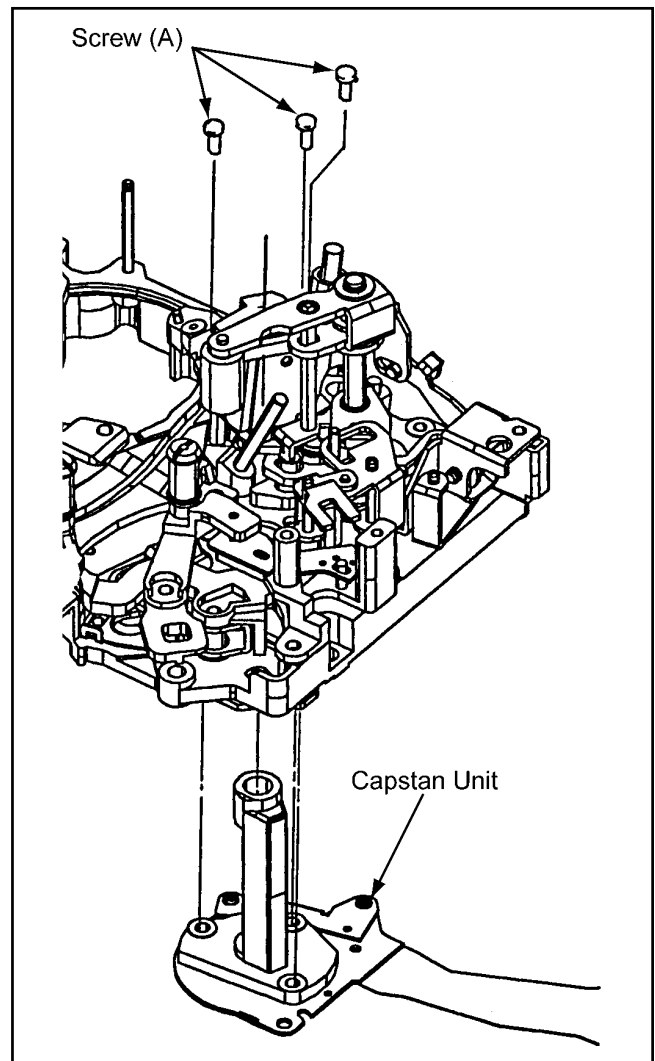

Figure 2-6
2. Unscrew the 3 screws (A) as shown in Figure 2-6, and remove the Capstan Unit from the bottom side of the Mech. Chassis.